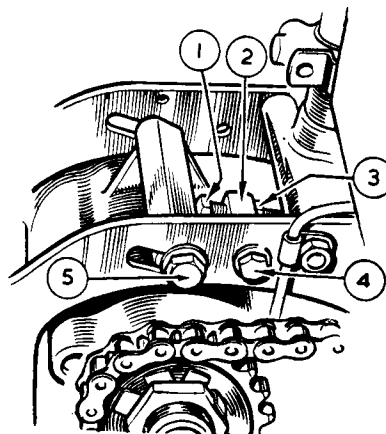

FIG. 38
The arrangement used to adjust the front chain on this model is shown in fig. 38. Remove the inspection cap on the front chaincase. Slacken the nut (5) on the right side engine plate. Slacken the nut (3). Screw in the bolt (1) into the crosshead to take up slack in the chain—press hard on the bottom run of the rear chain to tighten the front one, the correct chain whip is  $\frac{1}{2}$ ". Check in several positions—adjust for tightest point. When the correct adjustment is made tighten nuts (3 and 5). Should the front chain be tight—screw the bolt (1) out of the crosshead. Check rear chain adjustment after dealing with the front one.